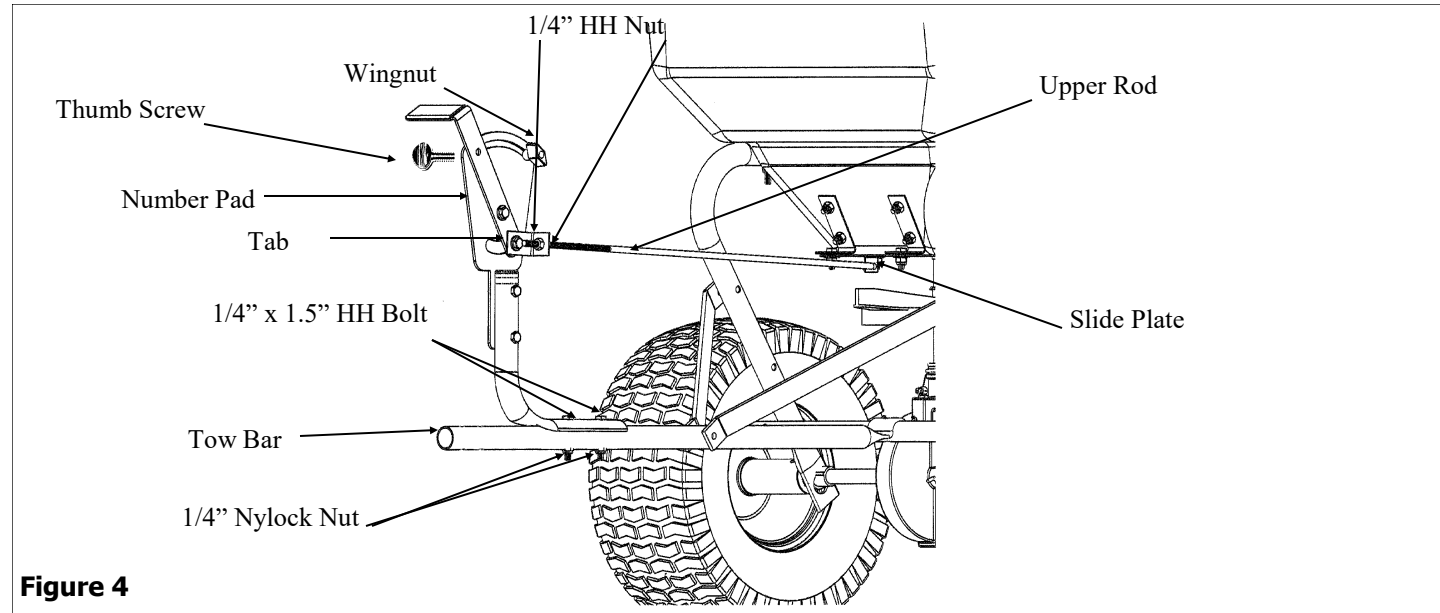

Figure 4
4. Attach the T-Handle to the top of the Tow Bar, using two 1/4" x 1.5" Hex Head Bolts and 1/4" Nylock Nuts. Thread a 1/4" nut onto Upper Rod then insert the Upper Rod through hole in Tab. Secure with a 1/4" nut. Insert other end of Upper Rod through hole in Slide Plate and secure with a 1/4" Nylock Nut. Insert Thumb Screw and 1/4" Washer into slide on Number Pad and secure with Wingnut. See Figure 4 And 6.